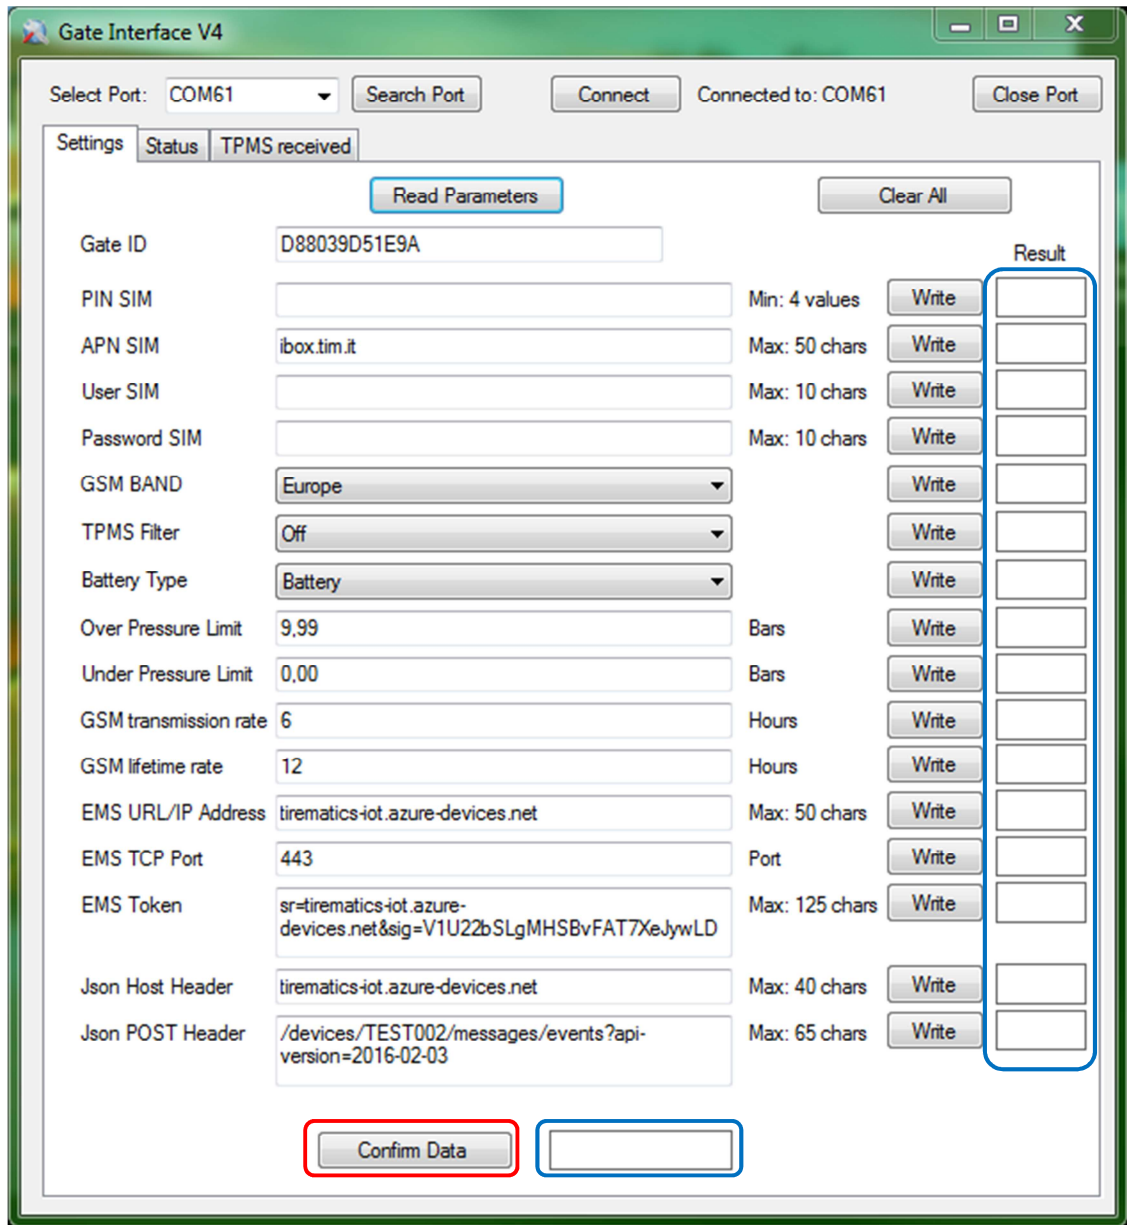

Figure 11 – Gate Interface settings
1. Unscrew by hand the USB port plastic cap of (Q)Be© master tower.
2. Connect the USB cable from any free USB port of the PC to (Q)Be© master tower USB Type B connector.
6. Configure Gate Interface parameters by selecting the “Settings” tab (see Figure 11).